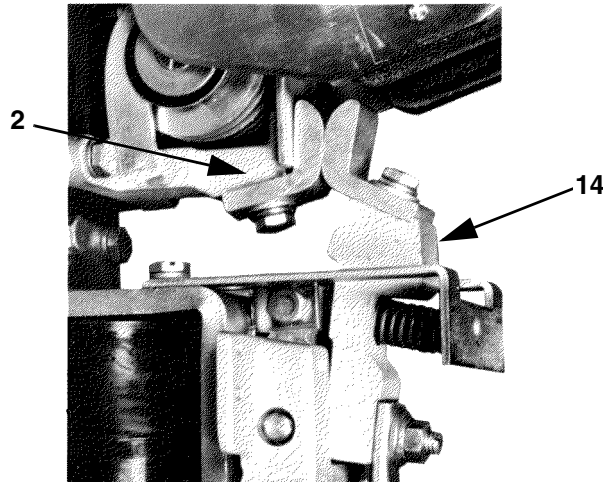

Figure 2 Contact Tip Alignment
Refer to Figure 2 when aligning the contact tip.
2. Visually verify that movable contact tip is properly seated against the ridge on the auxiliary arm (item 14), as shown in Figure 2.